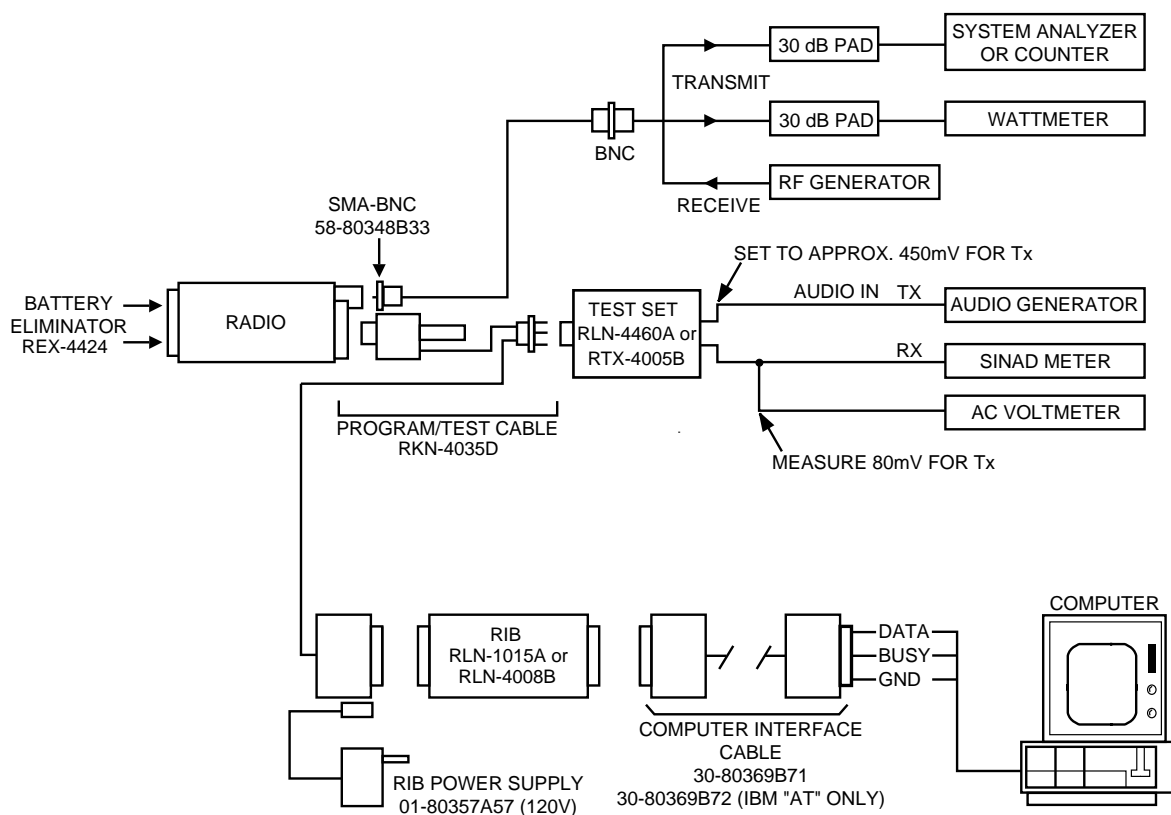

Figure 1 Radio Alignment Test Setup
An IBM personal computer (PC) and radio service software (RSS) are required to align the radio. Refer to the applicable RSS manual for installation and setup procedures for the software. To perform the alignment procedures, the radio must be connected to the PC, radio interface box (RIB), and a universal test set as shown in Figure 1.